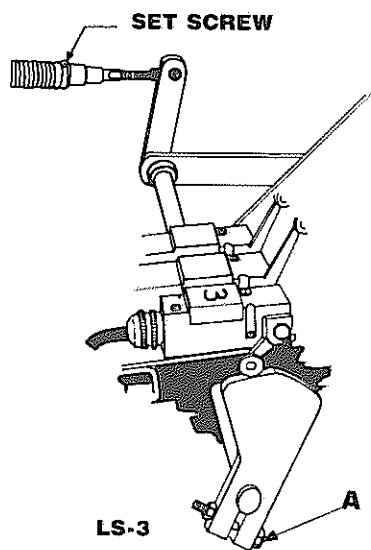

Fig. 41
1. Adjust the cam with the feed sensor paddles down, see **Fig. 41**.
2. Loosen clamp bolt (A) and rotate cam forward until the switch clicks to operate.
4. Tighten clamp bolt (A).